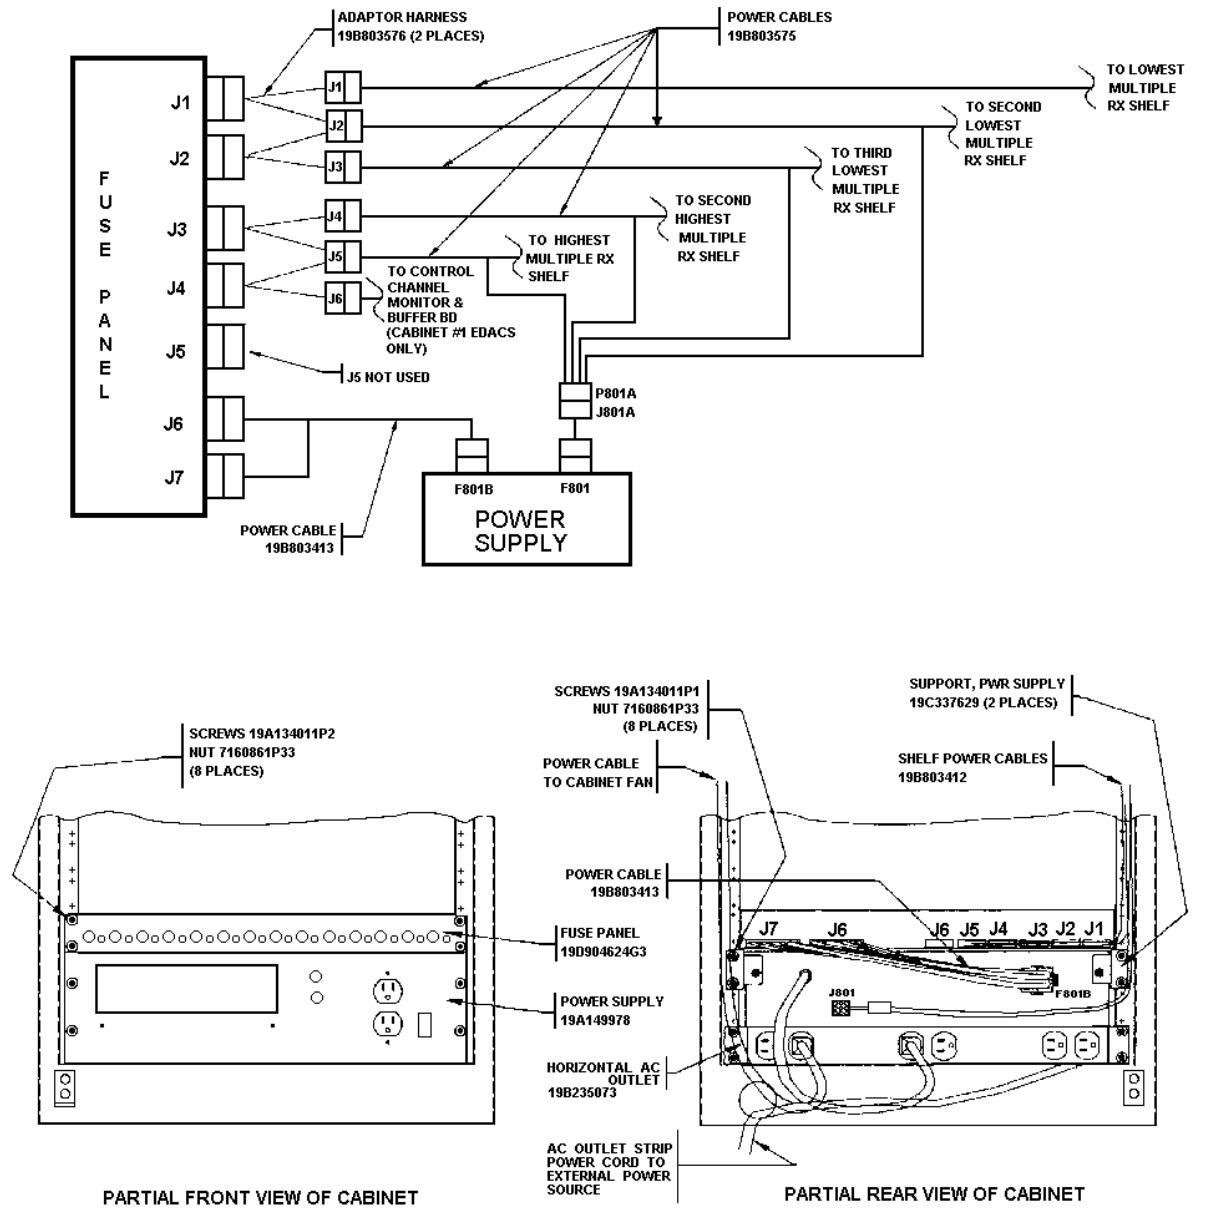

FIGURE 4 - POWER SUPPLY & FUSE PANEL
- ⚠️ SEE 188D5450 FIGURE 4 ON SHEET 6 FOR POWER GROUP MOUNTING AND CABLE HOOKUP.
6. SEE 188D5450 FIGURE 4 ON SHEET 6 FOR POWER GROUP MOUNTING AND CABLE HOOKUP.
- ⚠ SEE 188D5450 FIGURE 4 ON SHEET 6 FOR POWER GROUP MOUNTING AND CABLE HOOKUP.
- 6 SEE 188D5450 FIGURE 4 ON SHEET 6 FOR POWER GROUP MOUNTING AND CABLE HOOKUP.